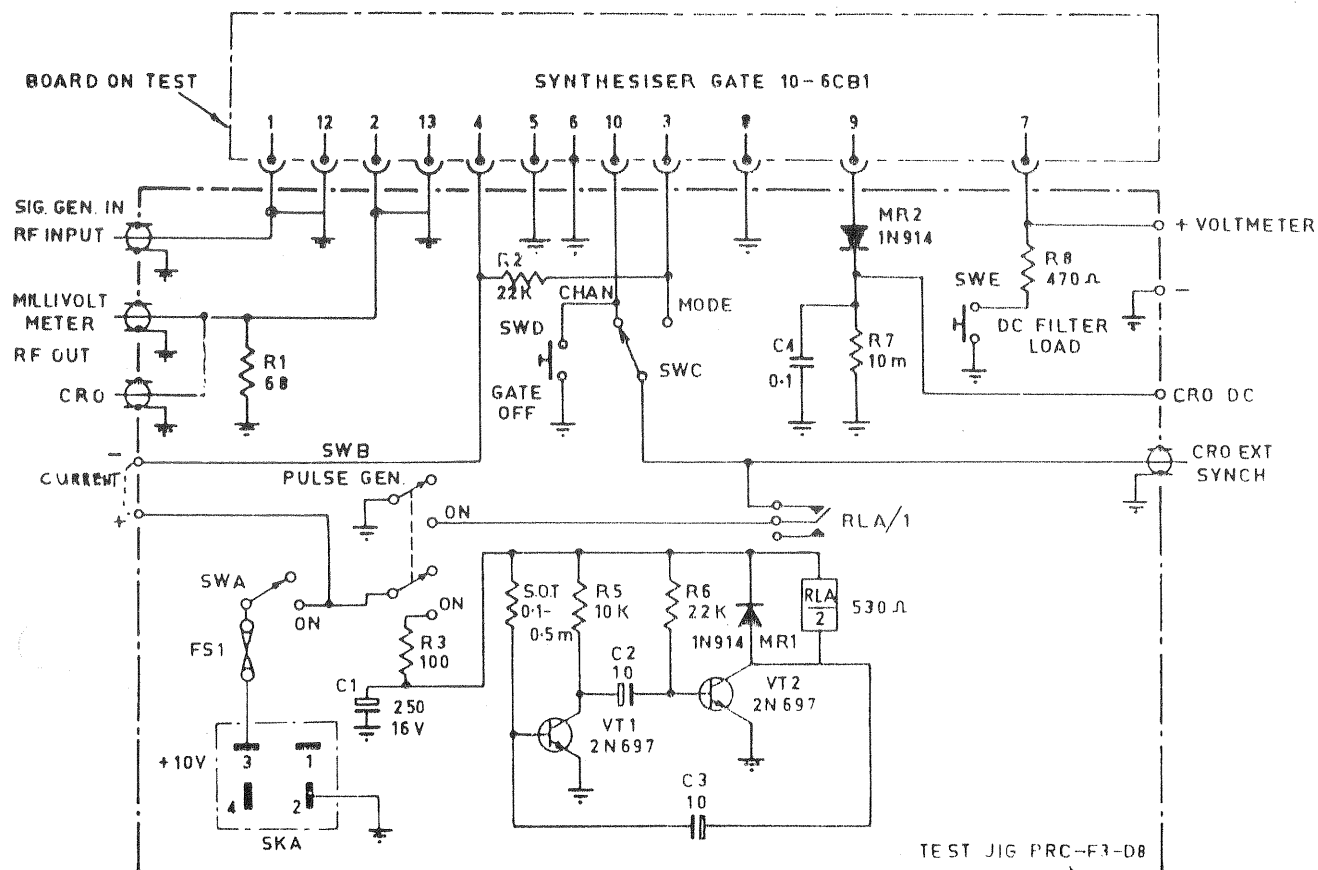

FIG 14 — TEST JIG PRC-F3-D8 (Synthesizer Gating Board)
- c. Test Jig PRC-F3-D8 (See Fig 14).